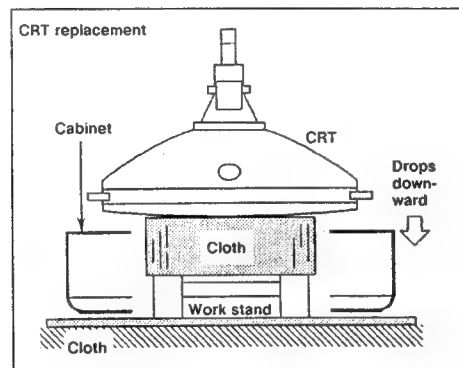

Fig. 5
- As indicated in Fig. 5, place an under layer of soft cloth. At top of this, prepare a work stand also covered with soft cloth.